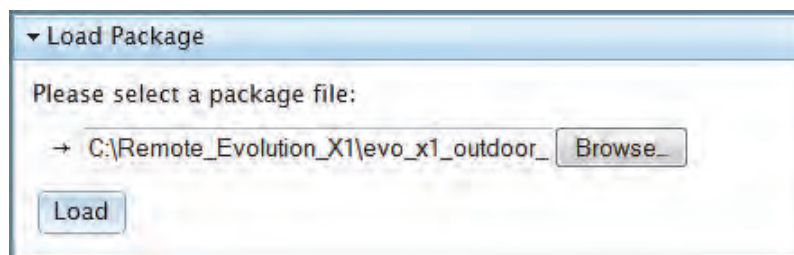

Figure 5-10. Load Button
2. With the package file selected, click the **Load** button. See Figure 5-10.